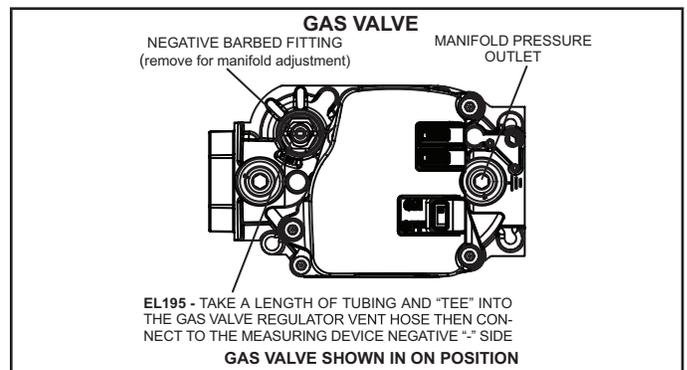

FIGURE 4
- 2 - Remove the heating compartment access panel. Turn the automatic gas valve switch to the OFF position. See figure 4.
- 6 - Move gas valve switch to OFF. See figure 4.
- 7 - Wait five (5) minutes for any gas to clear out. If you then smell gas, **STOP!** Immediately call your gas supplier from a neighbor's phone. Follow the gas supplier's instructions. If you do not smell gas, go to the next step.
- 8 - Move gas valve switch to ON. See figure 4.
When testing supply gas pressure, use the 1/8" N.P.T. supply line tap located on the gas valve to facilitate test gauge connection. See figure 4. Check gas line pressure with unit firing at maximum rate. Low pressure may result in erratic operation or underfire. High pressure can result in permanent damage to gas valve or overfire.
- 4 - If necessary, make adjustments. Figure 4 shows location of adjustment screw.
When testing manifold gas pressure, use the 1/8" N.P.T. plugged tap (manifold pressure outlet) located on the gas valve to facilitate test measuring device. See figure 4.
- 7 - Remove the negative barbed fitting as shown in figure 4 and using a screw driver make adjustment to increase or decrease manifold pressure.